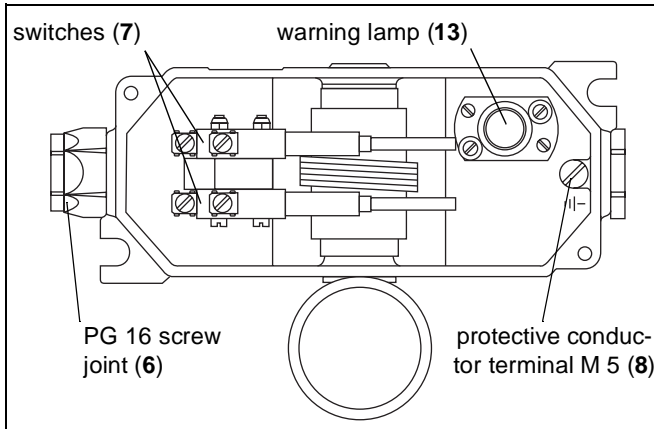

Fig. 5-4: Connection of the belt misalignment switch
- Loosen the nut of the PG 16 screw joint (6) and slide the nut over the connecting cable (see Fig. 5-4).
- Insert the connecting cable through the PG 16 screw joint (6) (see Fig. 5-4).
- Belt misalignment switches with a warning lamp (13): connect the connecting cables of the warning lamp (13) (see Fig. 5-4).
7. Connect the protective conductor with the protective conductor terminal M 5 (8) (see Fig. 5-4).
8. Adjust the switching point of the roller lever (3) on the cam disc (11) if you want another switching point (see section 5.2.3 „Adjusting the Switching Points“).
9. Close the cover (2) of the belt misalignment switch and retighten both screws (5) (see Fig. 5-4).
10. Tighten the nut of the PG 16 screw joint (6).